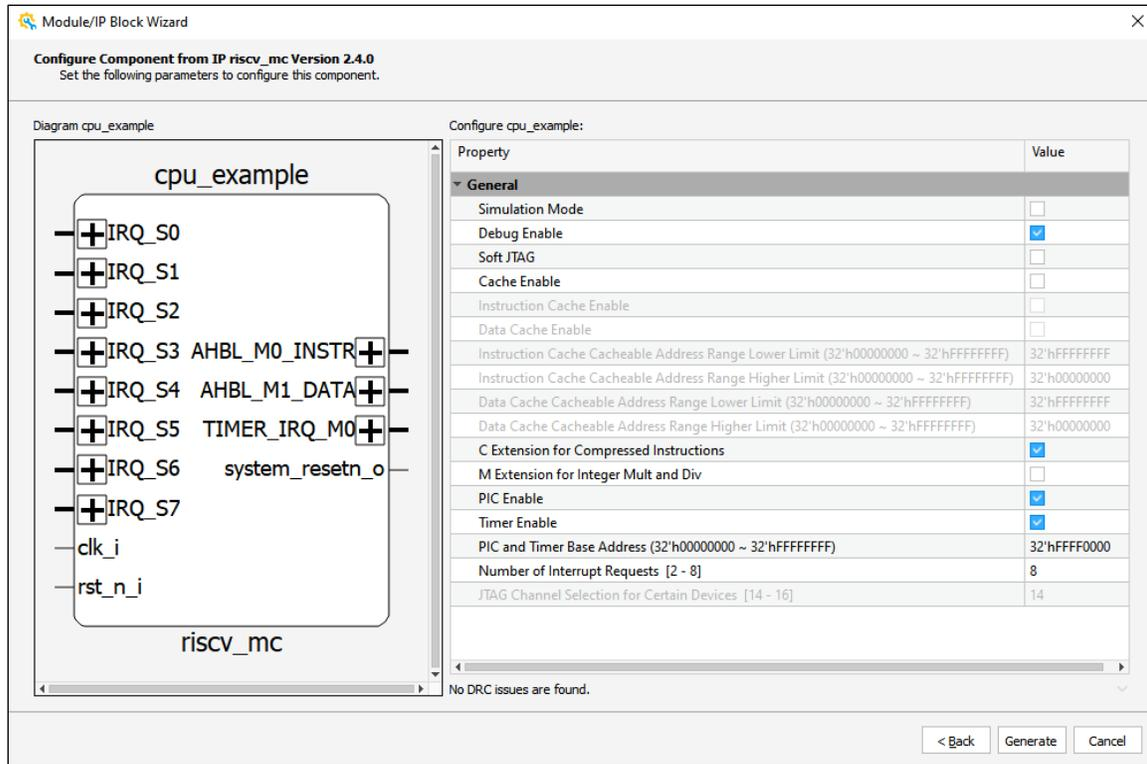

Figure 3.2. Configuring Parameters
3. Configure the parameters, as shown in Figure 3.2. Click **Generate**.